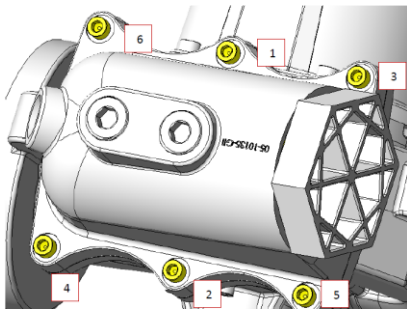

Figure 17
1. Remove 6 screws (Part #20-0211 6mm x 25mm screws) from the bypass housing, Figure 17.